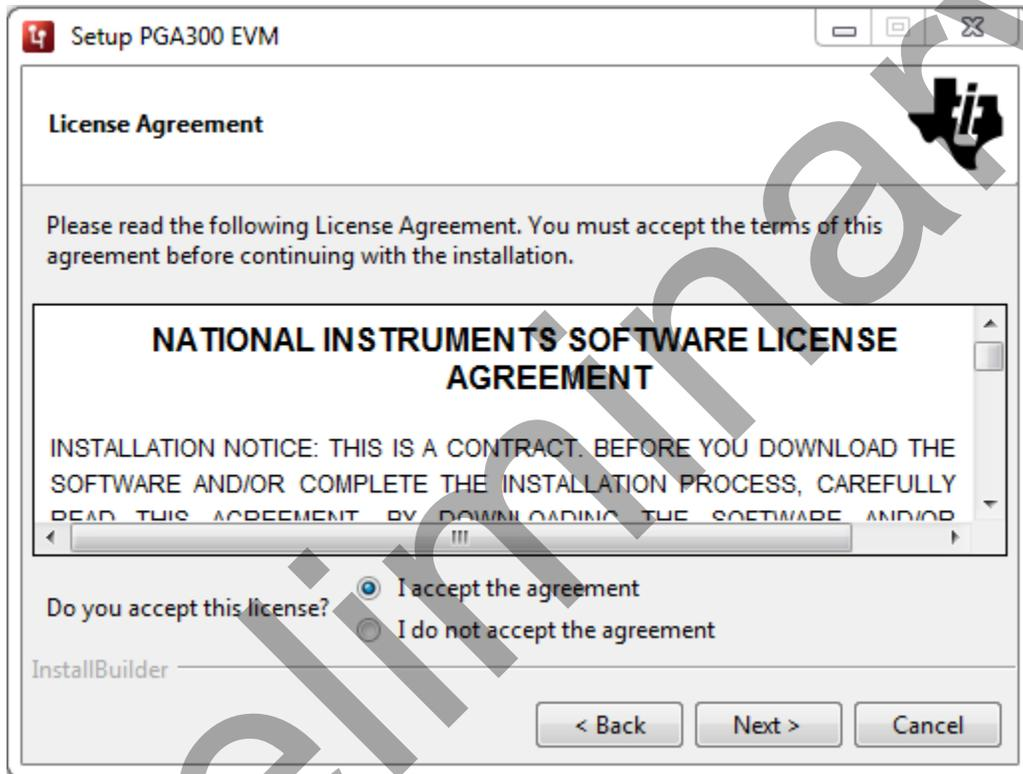

Fig 3: License Agreement - GUI
- The License Agreement for PGA300 GUI will appear as shown below in *Fig 3: License Agreement - GUI*. Please read through the agreement carefully and enable the “I Accept the License Agreement” radio button and press the **Next»** button